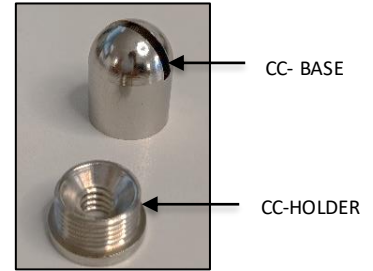

FIG. 6 - CEILING COUPLER ASSEMBLY
1. Dis-assemble the CEILING COUPLER into two components CC-BASE, CC-HOLDER as shown in FIG. 6.